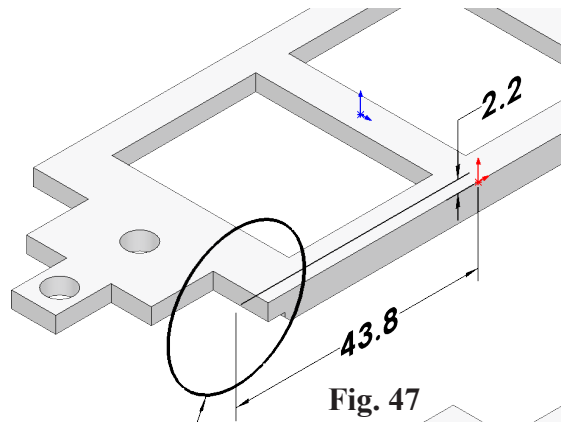

Fig. 47
Step 5. Click **Smart Dimension**  (S) on the Sketch toolbar.
Step 6. Add dimensions, **Fig. 47**.